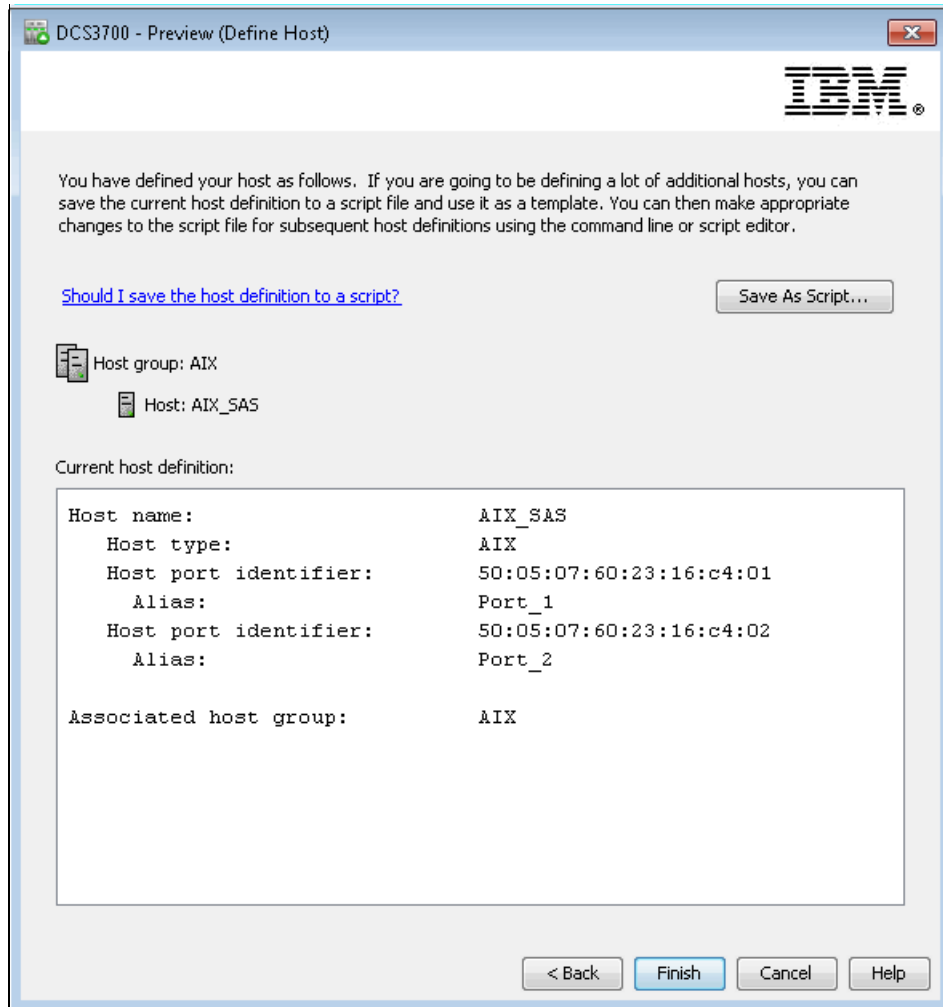

Figure 19-15 Preview (Define Host)
7. In Figure 19-15, you see the definition for the created host. Click **Finish** to complete the host mappings.